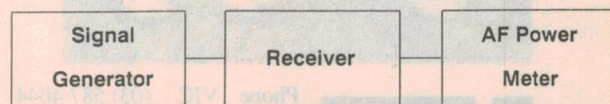

Fig.3.1: Maximum sensitivity
- i) Connect the equipment as shown in Fig.3.1.